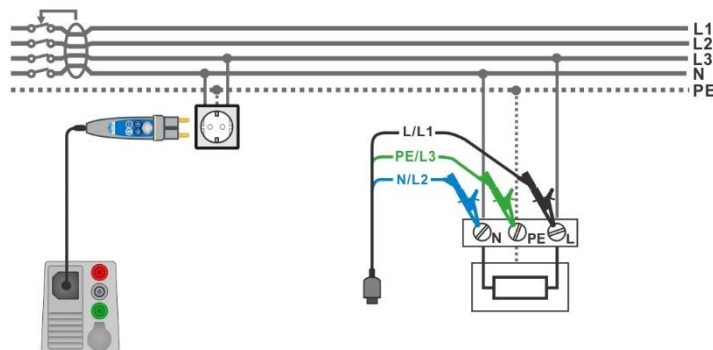

Figure 7.75: Z auto measurement
- ▶ Connect 3 wire test lead or Plug commander to the object under test, see *Figure 7.75*.